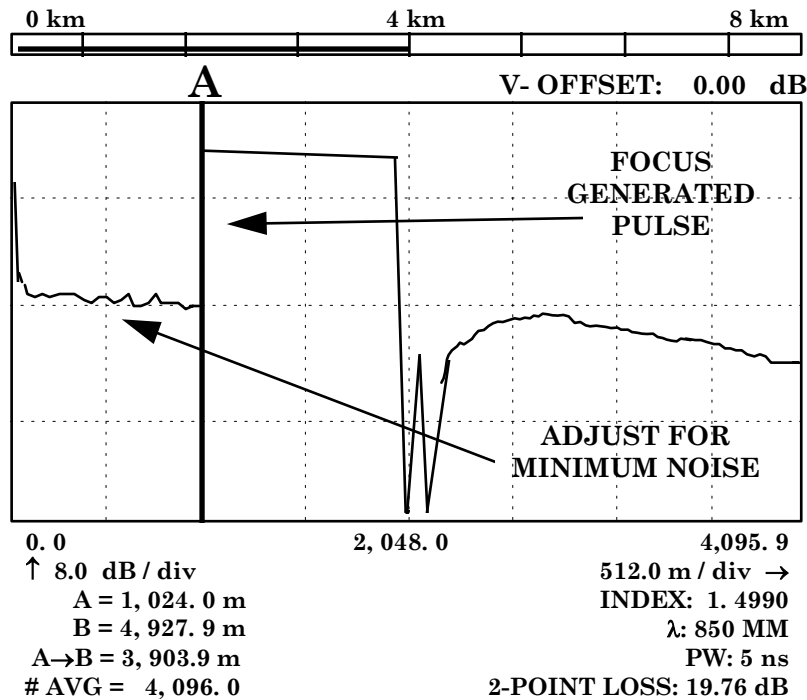

Figure 4. Example of cursor A at leading edge of FOCUS generated pulse (TD-260C).
(a) Press **REAL TIME** pushbutton and adjust **FOCUS VAR ATTN 1** control for minimum noise on trace prior to FOCUS generated pulse (fig. 4).
(5) Press **HOR CONT** pushbutton until FOCUS generated pulse is visible on TI display.
(6) Adjust **CURSOR A** control to place cursor A at leading edge of FOCUS generated pulse (fig. 4).
(7) Press **DISPLAY FROM** pushbutton to select A.
(8) Press **HOR CONT** pushbutton until FOCUS generated pulse leading edge is visible on TI display. Adjust **CURSOR A** control to place cursor A at leading edge of FOCUS generated pulse.
(9) Press **HOR EXP** pushbutton as necessary to display **2.0 m/div** (0.0020 km/div) on TI.